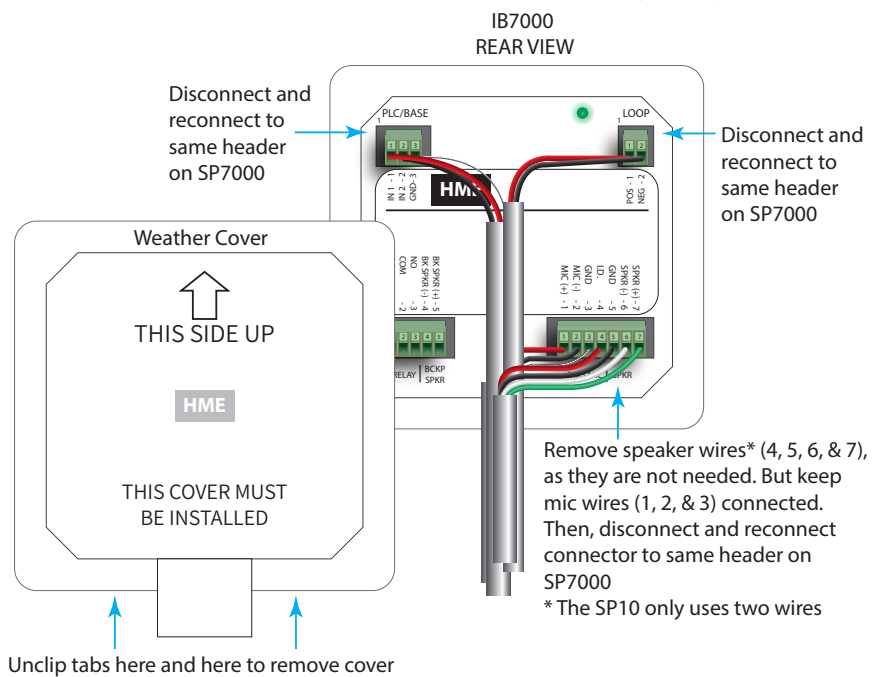

Fig. 2
1. Remove the weather cover from the existing IB7000 by unclipping the two bottom tabs (Fig. 2).